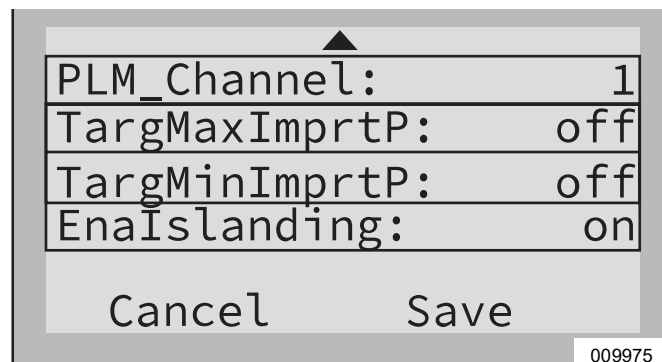

Figure 3-13. Mod. Settings Menu
- See Figure 3-13. Use the up and down arrows to scroll through available settings.